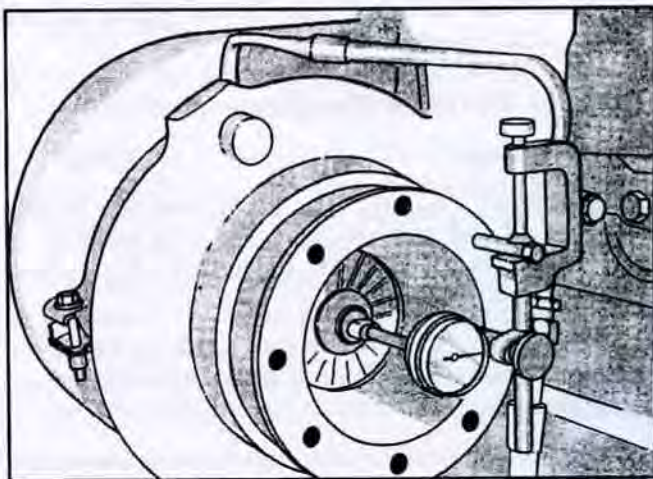

Fig. 2-66, (OM1065L) Check turbocharger bearing end clearance.
Check bearing clearances. This can be done without removing the turbocharger from the engine, by using a dial indicator to indicate the end-play of the rotor shaft and a feeler gauge to indicate the radial clearance. Fig. 2-66.
2. Remove one capscrew from the front plate (compressor wheel end) and replace it with a long capscrew. Attach an indicator to the long capscrew and register the indicator point on the end of the rotor shaft. Push the shaft from end-to-end making note of the total indicator reading. Fig. 2-66. On T-50, ST-50 and VT-50 the end clearance should be 0.006 to 0.018 inch [0.15 to 0.46 mm].